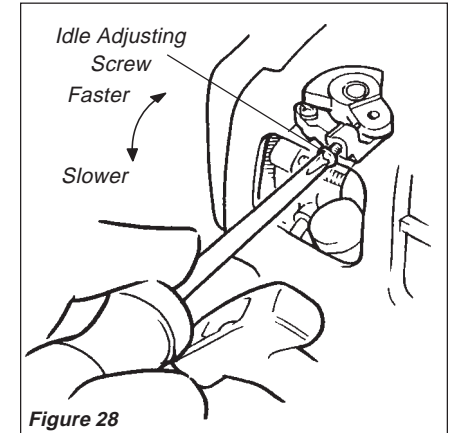

Figure 28
2. If the cutting attachment rotates at engine idle, reduce idle speed by turning the idle adjusting screw counter-clockwise. See Figure 28.